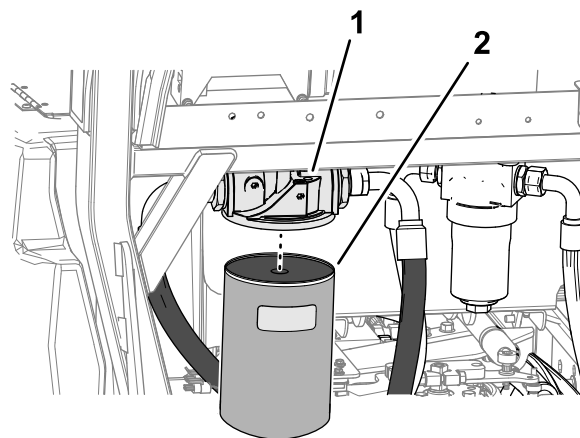

Figure 85
3. At the left side of the machine, clean the area around the filter head and place a drain pan under the filter (Figure 85).
4. Remove the return filter (Figure 85).
- Assemble the filter to the filter head, and tighten the filter by hand until the gasket contacts the mounting surface, then rotate it an additional 1/2 turn (Figure 85).